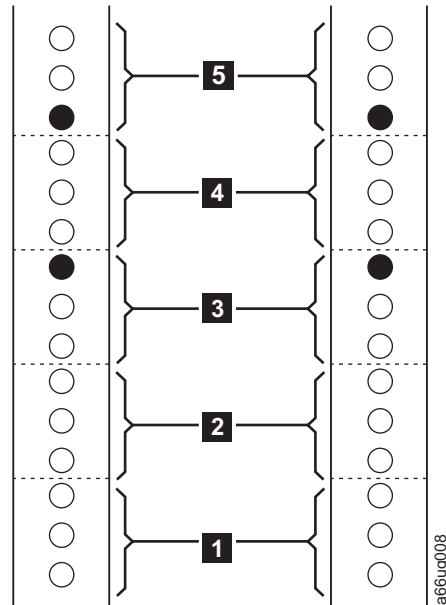
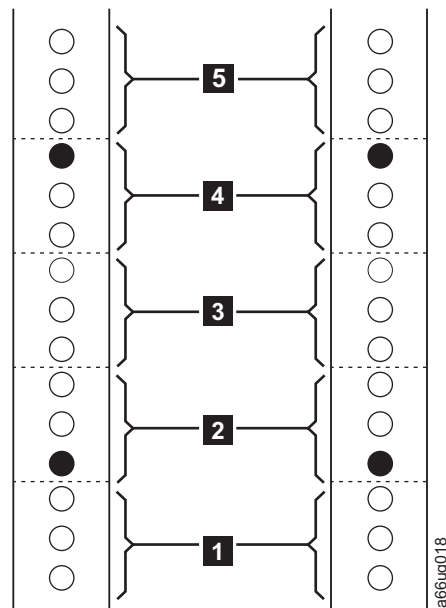

Figure 3-13. EIA identification and rail stud locations for FRONT vertical rack rails
Figure 3-14. EIA identification and rail stud locations for REAR vertical rack rails
1. Using a pencil, make a mark below the first EIA (**1** in Figure 3-13 and **1** in Figure 3-14) in the five EIAs selected in each vertical rail in your rack. The bottom of the rail shelf must align with the bottom hole of the first EIA in the front vertical rails in your rack.
2. The rail studs are located on the front and back of each rail included in the Rack Mount Kit. The rail studs will be positioned as indicated by the black filled circles in Figure 3-13 and Figure 3-14:
- Top hole of the third EIA (**3** in Figure 3-13 on page 3-15).
- Bottom hole of the fifth EIA (**5** in Figure 3-13 on page 3-15).
- Bottom hole of the second EIA (**2** in Figure 3-14 on page 3-15).
- Top hole of the fourth EIA (**4** in Figure 3-14 on page 3-15).
- Top hole of the first EIA (see Figure 3-13 on page 3-15)
- Top hole of the second EIA in the vertical rack rails (see Figure 3-13 on page 3-15)